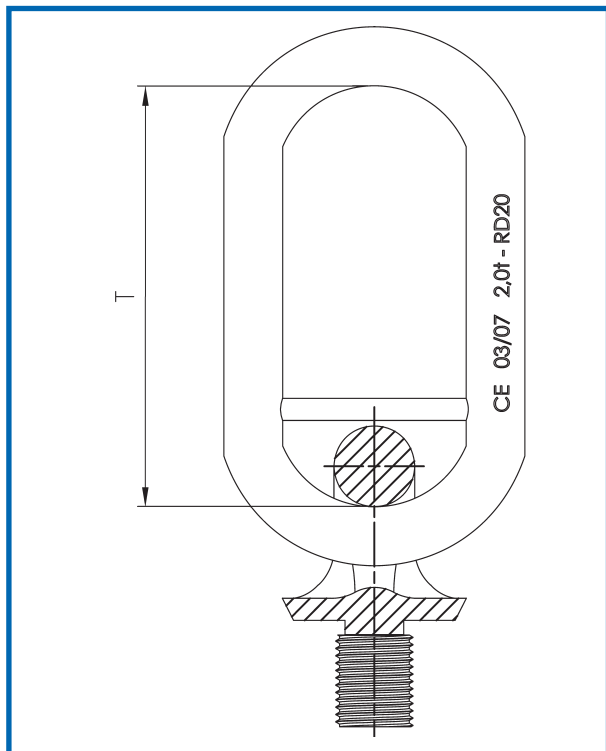

Figure 23: Deformation of Chain Link
- Deformation of the ring head (see figure 23)